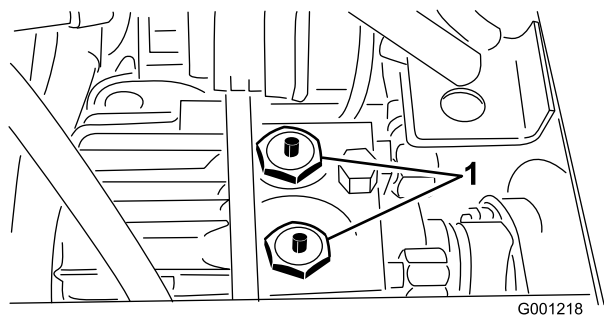

Figure 33
2. Press and hold the pins located in the center of the 2 check-valve assemblies in the top of the transmission (Figure 33) while pushing or towing the machine.